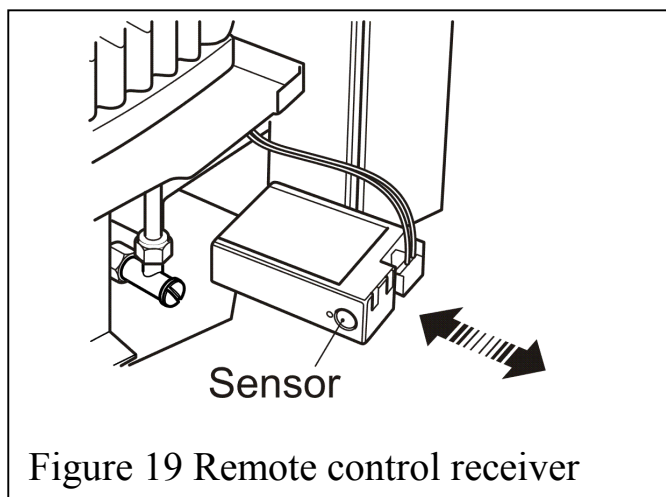

Figure 19 Remote control receiver
2. Slide the remote control receiver out of its retention housing. Remove the receiver top cover and fit the four AA batteries as indicated inside the receiver base. Replace the receiver top cover. Slide the receiver back into its housing. **The ultrasonic sensor must face towards the centre of the appliance and the supply cable must be routed as shown in figure 19.**